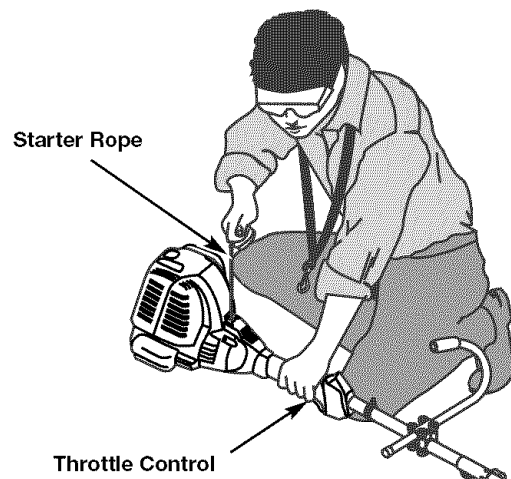

Fig. 22
6. Crouch in the starting position (Fig. 22). Press the throttle lockout in and squeeze the throttle control lever. Pull the starter rope briskly 5 times.